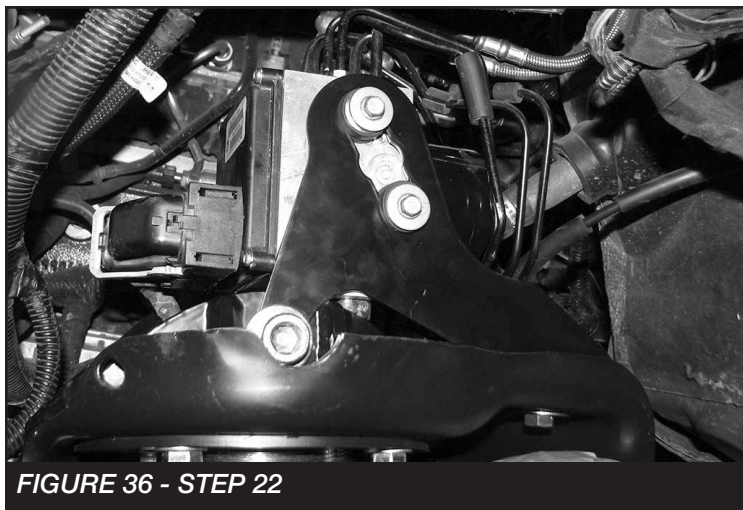

FIGURE 36 - STEP 22
22. Install the factory bushings into the new Fabtech ABS bracket that were removed in Step 4. Reinstall the ABS actuator with the factory bolts. **SEE FIGURE 36**